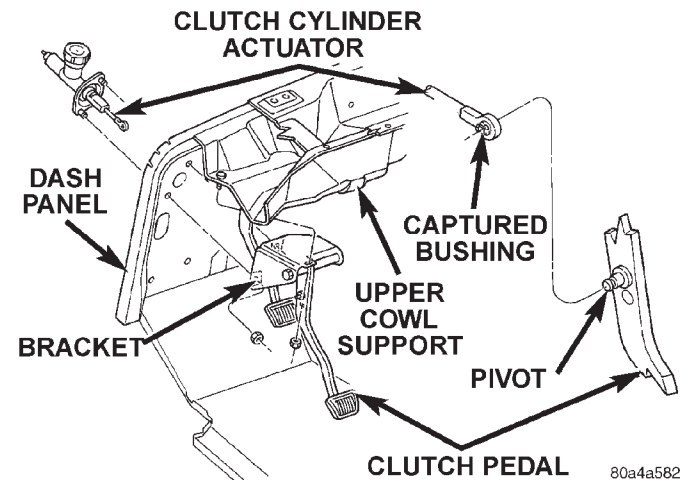
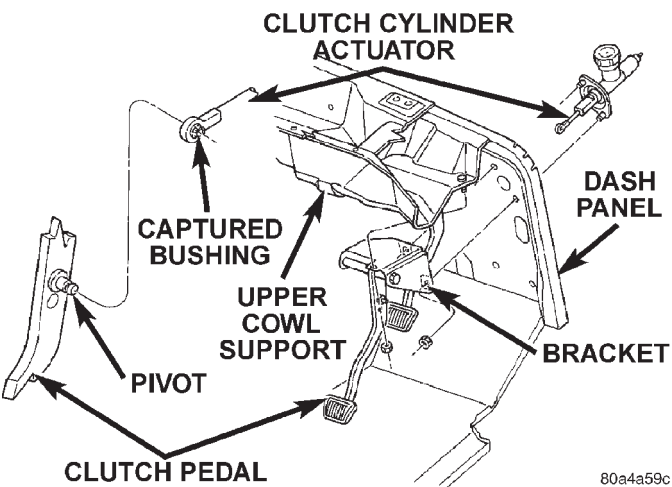

Fig. 11 Clutch Pedal Mounting
Fig. 12 Clutch Pedal Mounting—Right Hand Drive
(1) Remove steering column lower cover and knee blocker for access. Refer to Group 8E, Instrument Panel for procedure.
(2) Disconnect clutch pedal position switch wires.
(3) Disengage captured bushing lock tabs attaching clutch master cylinder actuator to pedal pivot (Fig. 11) or (Fig. 12).
(4) Remove nuts attaching pedal and bracket to dash panel and upper cowl support (Fig. 11) or (Fig. 12).
(5) Separate pedal assembly from vehicle.
(1) Place clutch pedal and bracket over studs on dash panel and cowl support (Fig. 11) or (Fig. 12).
(2) Install nuts to attach pedal and bracket to dash panel and upper cowl support (Fig. 11) or (Fig. 12). Tighten nuts to 39 N·m (29 ft. lbs.) torque.
(3) Engage captured bushing and actuator on brake pedal pivot (Fig. 11) or (Fig. 12).
(4) Connect clutch pedal position switch wires.